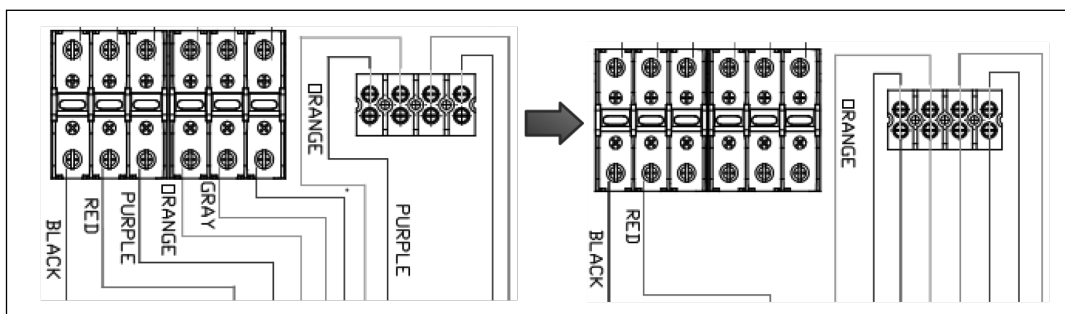

Figure 5 - Converting from Simultaneous to Non-Simultaneous Operation
1. Remove the red and grey wires from terminals L1 and L2 respectively. See Figure 5.